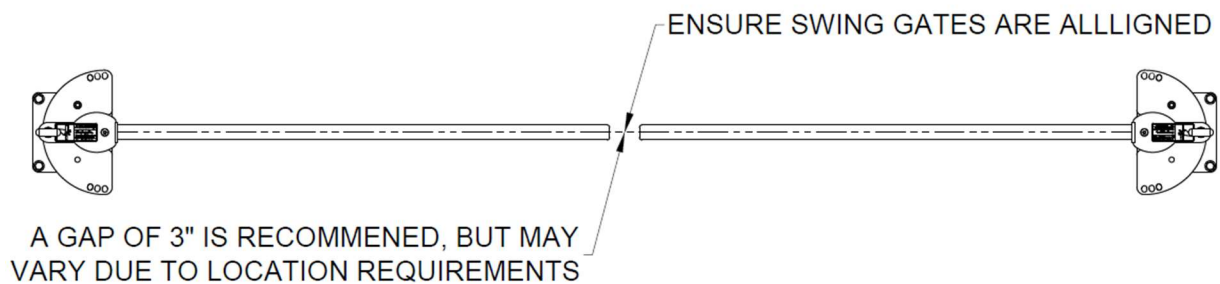

Figure 2: Swing Gate Install Position
- a. Ensure gates are aligned and properly spaced. (See Figure 2)